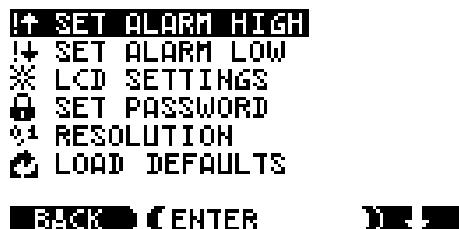
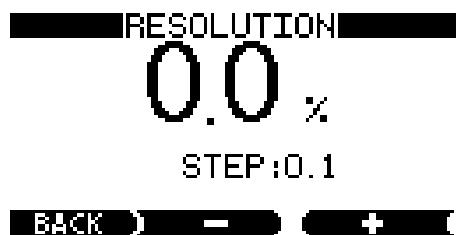

Figure 6: SETUP mode with High Alarm selected Screenshot.
Figure 11: Resolution Screen
- 2iii) Press the right-hand navigator button to access the menu (Figure 6)
- 3iii) Press the right-hand navigator button to access the menu (Figure 6).
- 4iii) Press the right-hand navigator button to access the menu (Figure 6)
The displayed resolution may be adjusted to suit different applications. From the SETUP menu (see Figure 6) using the down arrow button ▼ select the RESOLUTION option and press the enter button. The display will change to look like the example in Figure 11:
From the SETUP menu (see Figure 6) using the down arrow button ▾ to highlight the LOAD DEFAULTS option. The button options at the base of the screen change to BACK, LOAD and ▾. Pressing the LOAD button will return the settings to the default factory values, which are:-